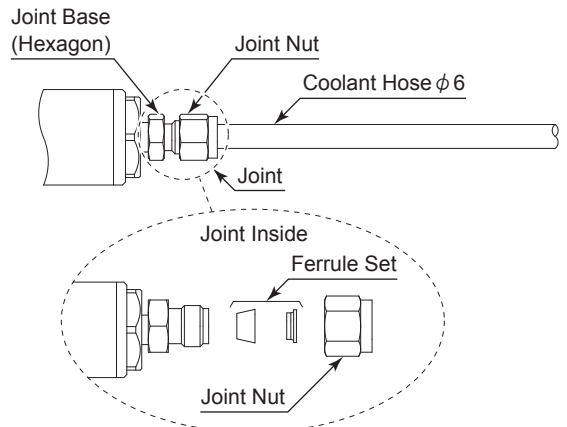

Fig. 19
- (2) Secure an adjustable wrench or 14mm open-end wrench (Wrenches not included) to the base (hexagon part) of the Joint, then tighten the Joint Nut securely by using an adjustable wrench or 14mm open-end wrench (Fig .19).
- (3) Check that the Coolant Hose $\phi 6$ will not come off from the Coolant Supply Port, by lightly pulling the Coolant Hose $\phi 6$.
* If the Coolant Hose $\phi 6$ comes off from the Oil Supply Port, secure the hose by performing procedure (1) - (2) again.